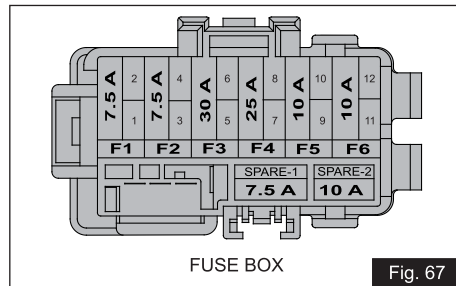

Fig. 67
- ♦ Fuses are arranged inside fuse box as given in the figure (Fig. 67). Ensure to fix the right rating fuse at right location.